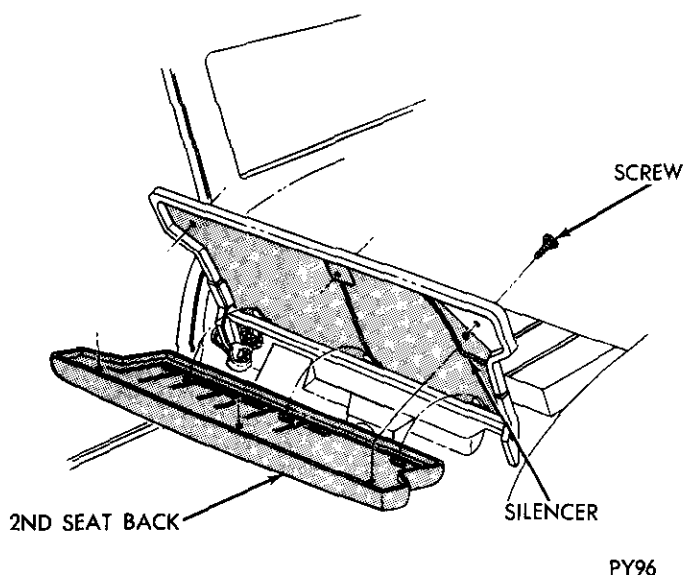

Fig. 17—Second Seat Back
- (1) Remove seat back to hinge screws (Fig. 17).